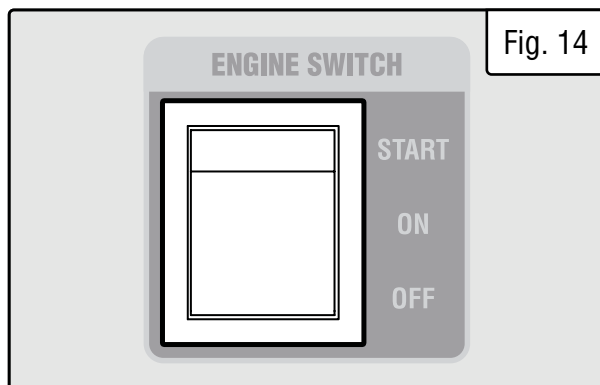

Fig. 14
6. Push the engine switch (Fig. 14) to the OFF position.